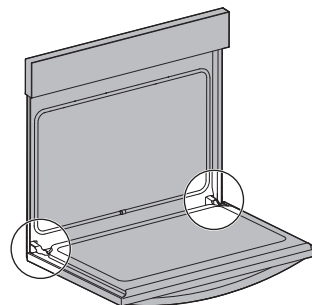

Figure 24: Door hinge location
1. Open oven door completely, horizontal with floor (Figure 24).
3. Fully open the oven door, horizontal with floor (Figure 24).